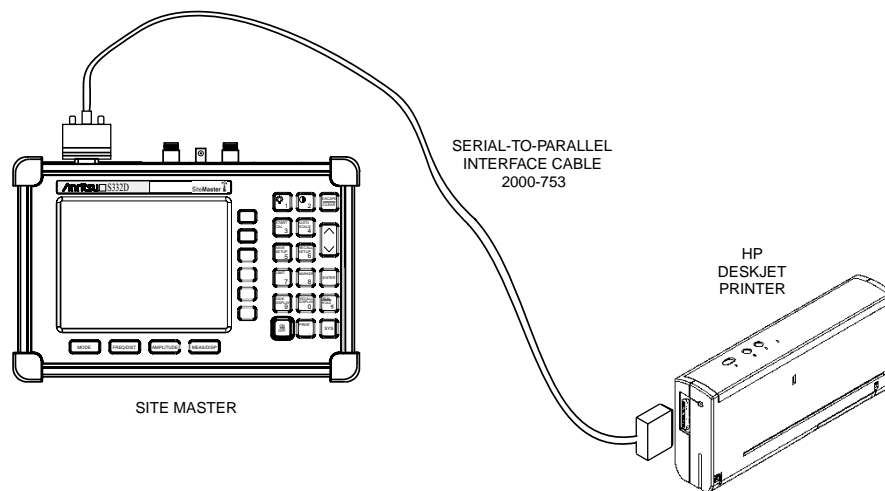

Figure 3-4. Cell Master Printer Setup
- Step 5.** Connect the printer as shown in Figure 3-4.